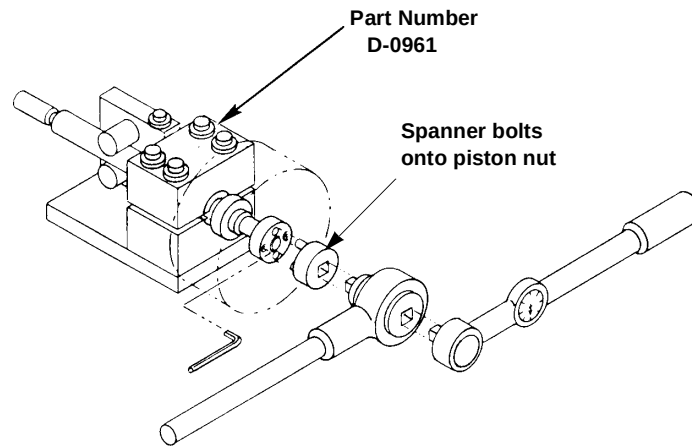

FIGURE 5-11: PISTON AND ROD CLAMPING FIXTURE
The Piston and Rod Clamping Fixture shown in Figure 5-11: will be useful for the piston and rod disassembly and reassembly operations. This fixture may be purchased from Ariel.
1. Clamp the piston and rod assembly in the special Clamping Fixture (D-0961), using the bushing for a 1-1/8" rod size (see Figure 5-11:). Tighten the four 12-point cap screws to prevent the rod from turning. The fixture will properly hold the piston rod to prevent damage to the parts and promote safety during disassembly and reassembly. The Clamping Fixture must be securely bolted down to prevent it from turning with the piston rod. It should be at a convenient height of approximately three feet or 0.9 meters. Remove the setscrews from the piston nut. Although the piston nut has been staked to lock the setscrews, they can be forced out, by turning with an Allen wrench, past the small lip that has been formed.